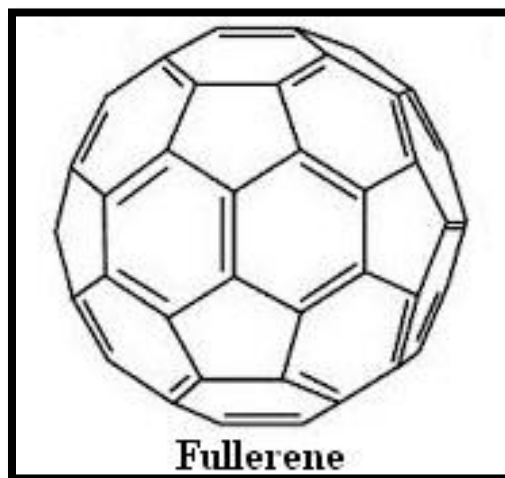

Fig.3.12 Structure of fullerene
- Many number of fullerene molecules with different carbon atoms like C60, C70, C74, C76 etc., have been prepared but C60 is more stable as shown in fig.3.12